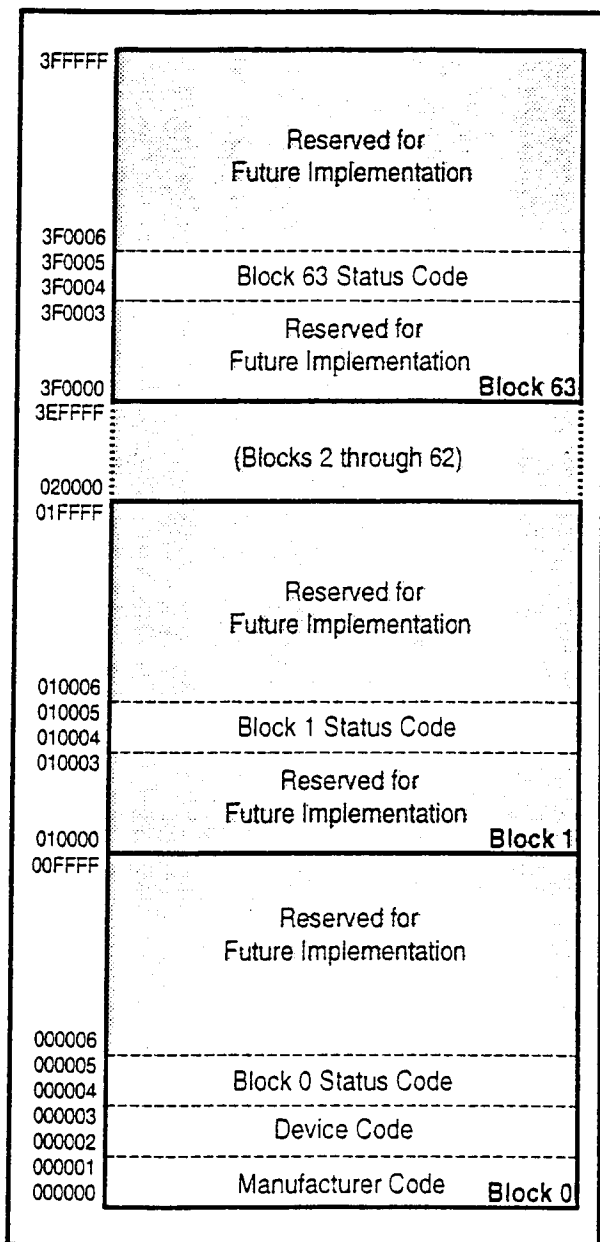

Figure 5. Device Identifier Code Memory Map
The read identifier codes operation outputs the manufacturer code, device code, block status codes for each block (see Figure 5). Using the manufacturer and device codes, the system CPU can automatically match the device with its proper algorithms. The block status codes identify locked or unlocked block setting and erase completed or erase uncompleted condition.
| Read Identifier Codes | 9 | V _{IH} | V _{IL} | V _{IL} | V _{IL} | V _{IH} | See Figure 5 | X | Note 5 | High Z |
IA=Identifier Code Address: see Figure 5.
The identifier code operation is initiated by writing the Read Identifier Codes command. Following the command write, read cycles from addresses shown in Figure 5 retrieve the manufacturer, device, block lock configuration and block erase status (see Table 5 for identifier code values). To terminate the operation, write another valid command. Like the Read Array command, the Read Identifier Codes command functions independently of the V_{PP} voltage and $RP\#$ must be V_{IH} . Following the Read Identifier Codes command, the following information can be read:
1. X selects the specific block status code to be read. See Figure 5 for the device identifier code memory map.